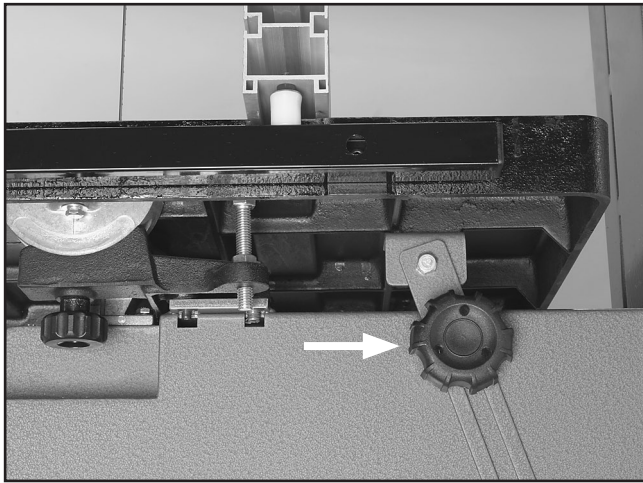

Figure 13. Knob securing table tilt bracket.
- Use the tilt bracket knob to secure the table tilt bracket to the bandsaw body, as shown in **Figure 13**. Tighten the hex nut on the tilt bracket knob against the tilt bracket to secure it in place.